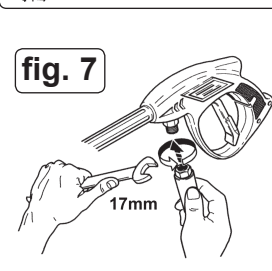

fig. 7
- 3.6. Connect the gun to the high pressure hose outlet (fig. 1.3), as shown in fig. 7.